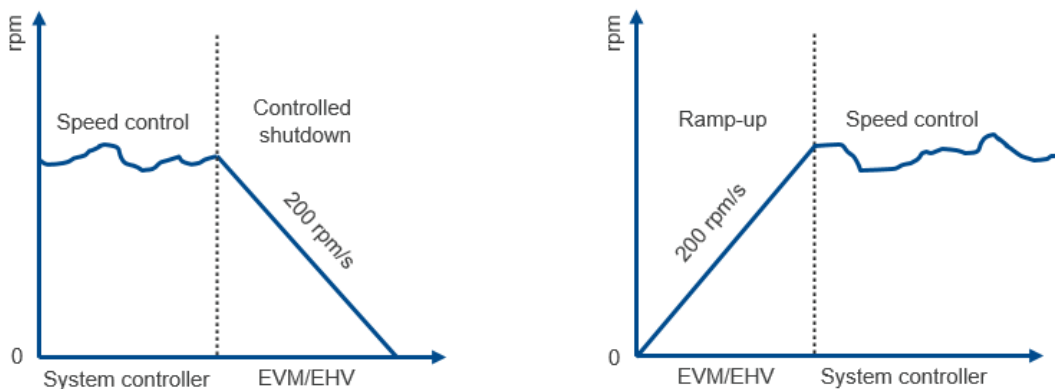

Figure 6: Controlled shutdown and ramp-up
- To stop the compressor, see **Figure 6 "Controlled shutdown"**.